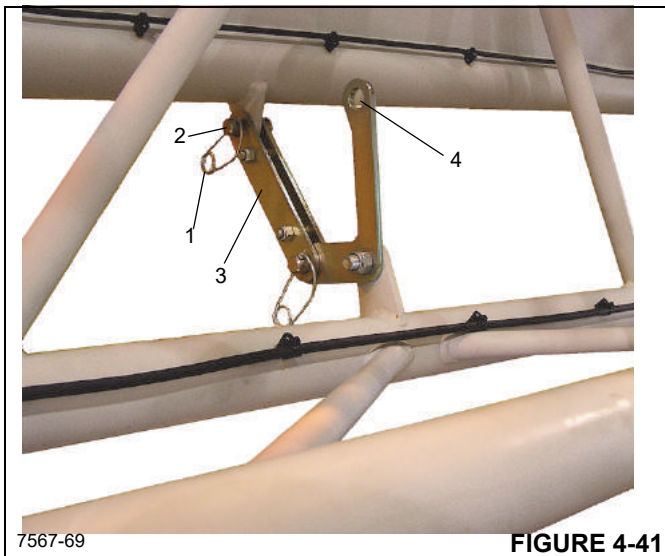

FIGURE 4-41
19. Remove the retaining clip (1) (Figure 4-41) from the pin (2) and remove the pin. Secure the locking bar (3) to the stowage lug (4) on the 36 ft (11 m) extension with the pin and retainer clip.